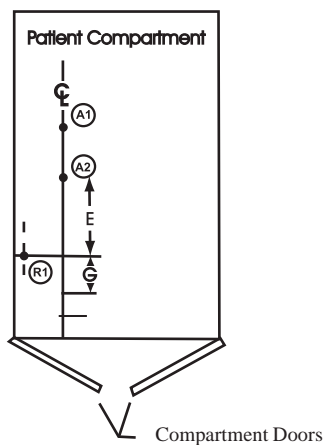

Figure 10 - Measurement G
- Starting from the mark made for Measurement **E**, measure along the Centerline toward the rear compartment doors and mark a point for Measurement **G** (Figure 10).